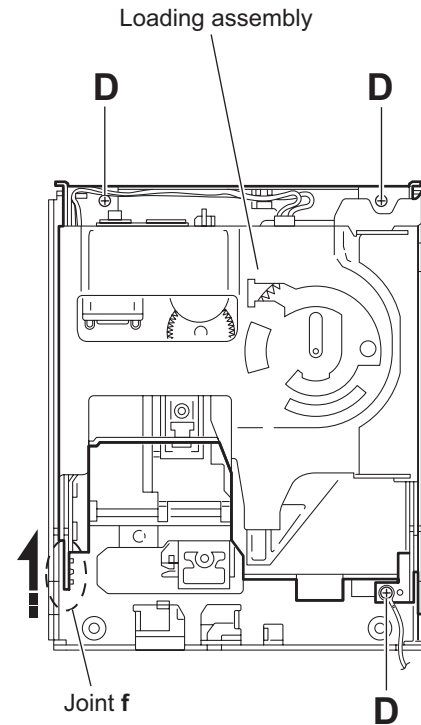

Fig.9
3.3.5 Removing the loading assembly (See Figs.9 and 10)